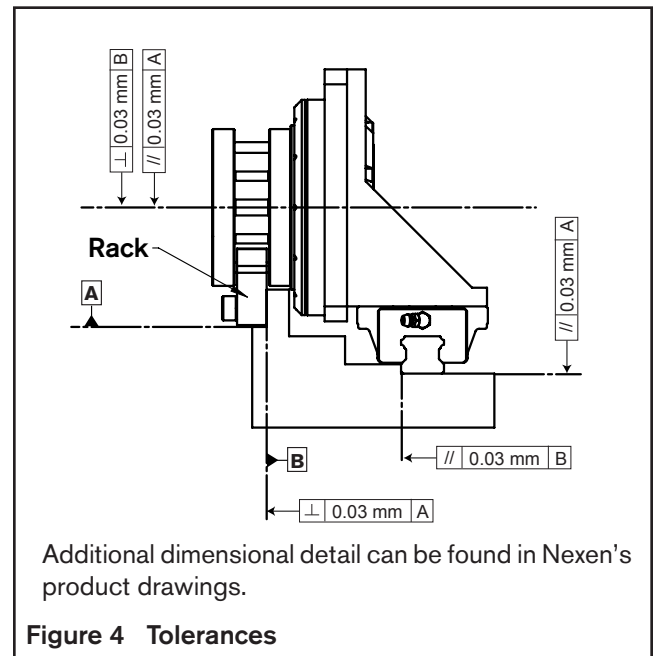

Figure 4 Tolerances
- Mount a linear guide rail on a surface parallel to the RPS rack mounting surface with the same flatness as the rack mounting surface as shown in Figure 4.
The mounting surface for both the rack and the guiding system must be parallel within the specifications shown in Figure 4. This parallelism requirement is best achieved by machining the mounting locations for both the guiding system and rack in the same machining operation. (Refer to SYSTEM ALIGNMENT VERIFICATION section later in this manual.